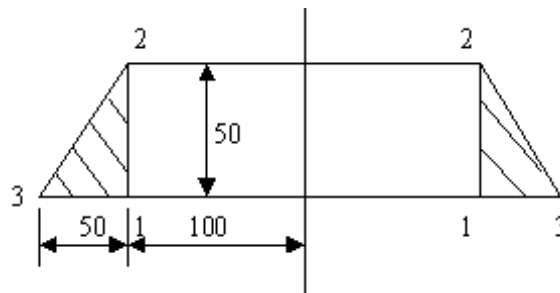

Figure 2:
5. An axisymmetric ring element is shown in figure2. Derive the matrices, [B] and [D]. Take $E = 2 \times 10^5 \text{ N/mm}^2$ and $\mu = 0.33$.